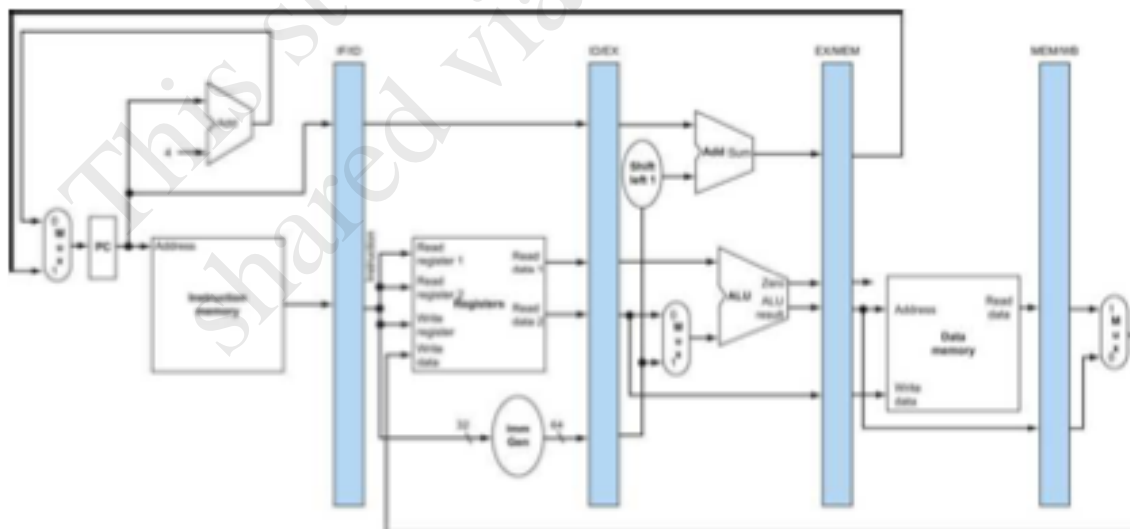

Figure 1: 5-stage pipeline without forwarding and hazard detection
- 2) Consider the 5-stage pipeline design we discussed in the lecture, shown in Figure 1, **without forwarding paths** and without hazard detection logic. In this case the compiler is responsible for avoiding RAW hazards. Insert the minimum number of required NOPs into the instruction stream without re-ordering instructions to avoid all hazards. Calculate the average CPI of this code, assuming a CPI of one for all instructions. **(4 Points)**
- 3) Consider the 5-stage pipeline design we discussed in the lecture, shown in Figure 1, without forwarding paths and without hazard detection logic. In this case the compiler is